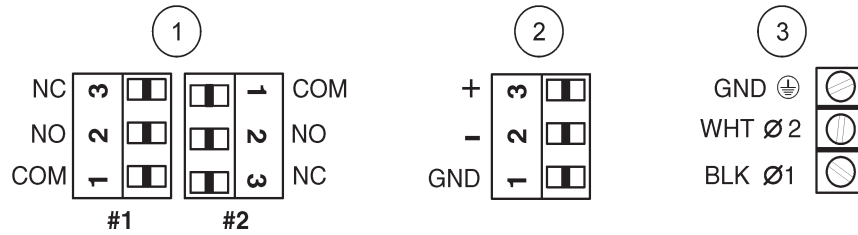
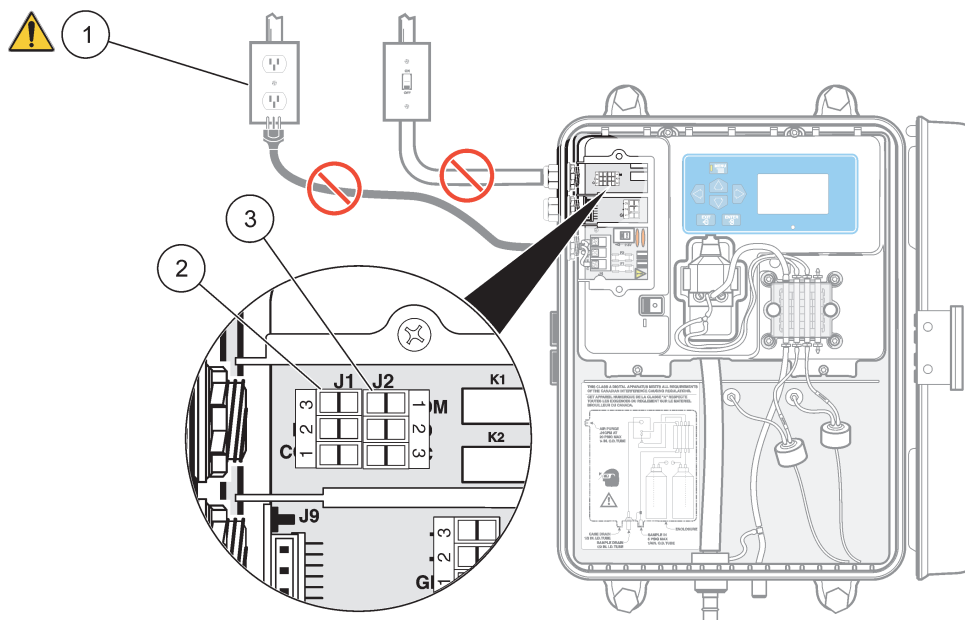

Figure 11 Customer connections to analyzer
Figure 15 Alarm connections
2. Connect the three wires to the terminal using the information in Table 3 and Figure 11 on page 21.
The analyzer contains two alarm relays designed for use with either high voltage (greater than 30V-RMS and 42.2V-PEAK or 60 VDC) or low voltage (less than 30V-RMS and 42.2V-PEAK, or less than 60 VDC), but not a combination of both high and low voltage. Refer to 3.8.5, Figure 11, and Figure 15 along with the instructions below for connection information.